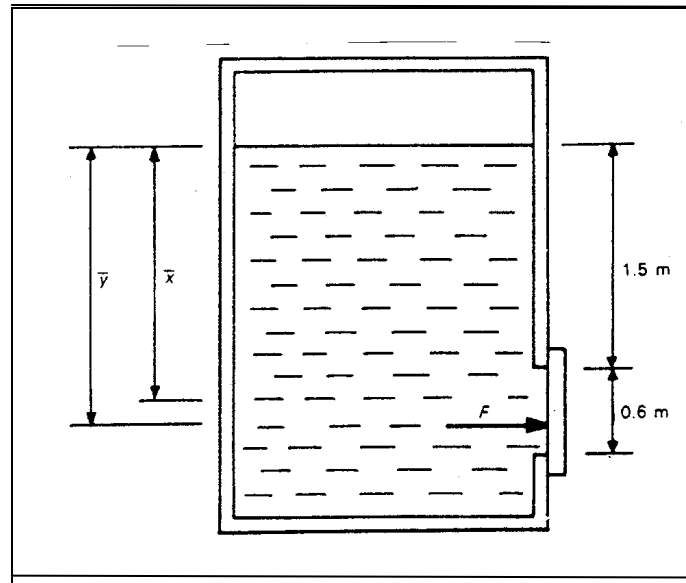

FIGURE 1
- 3.2 In FIGURE 1 below a rectangular opening 900 mm wide by 600 mm high is cut in the side of a tank and closed by a bolted plate.